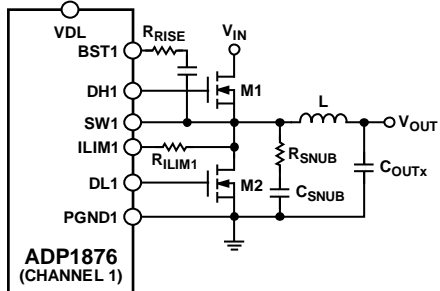

Figure 32. Application Circuit with a Snubber
In any high speed step-down regulator, high frequency noise (generally in the range of 50 MHz to 100 MHz) and voltage overshoot are always present at the gate, the switch node (SW), and the drains of the external MOSFETs. The high frequency noise and overshoot are caused by the parasitic capacitance,  $C_{GD}$ , of the external MOSFET as well as the parasitic inductance of the gate trace and the packages of the MOSFETs. When the high current is switched, electromagnetic interference (EMI) is generated, which can affect the operation of the surrounding circuits. To reduce voltage ringing and noise, it is recommended to add an RC snubber between SWx and PGNDx for high current applications, as illustrated in Figure 32.
A resistor, shown as  $R_{RISE}$  in Figure 32 at the BST1 pin, helps to reduce overshoot and is generally between  $2\ \Omega$  and  $4\ \Omega$ . Adding a resistor in series, typically between  $2\ \Omega$  and  $4\ \Omega$ , with the gate driver also helps to reduce overshoot. If a gate resistor is added,  $R_{RISE}$  is not needed.